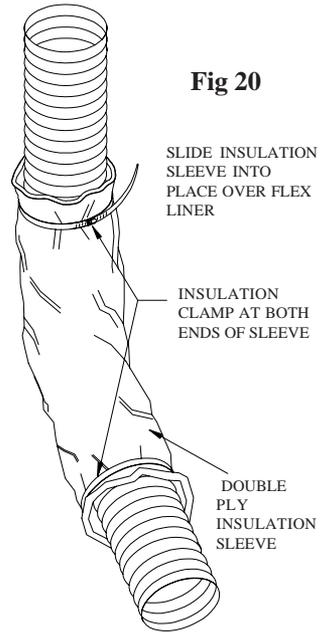

Fig 20
Step 3. Continue adding Insulation Sleeves along the length of the Flex Liner, being sure that the previous Sleeve overlaps the next Sleeve. Secure the overlap with an Insulation Clamp (**Figures 20, 21**).